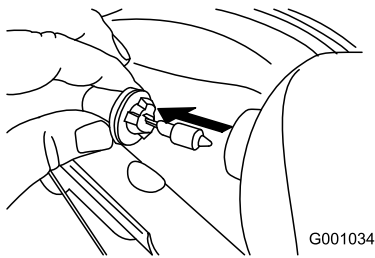

Figure 57
3. Remove the bulb straight out from the back of the headlight (Figure 57).